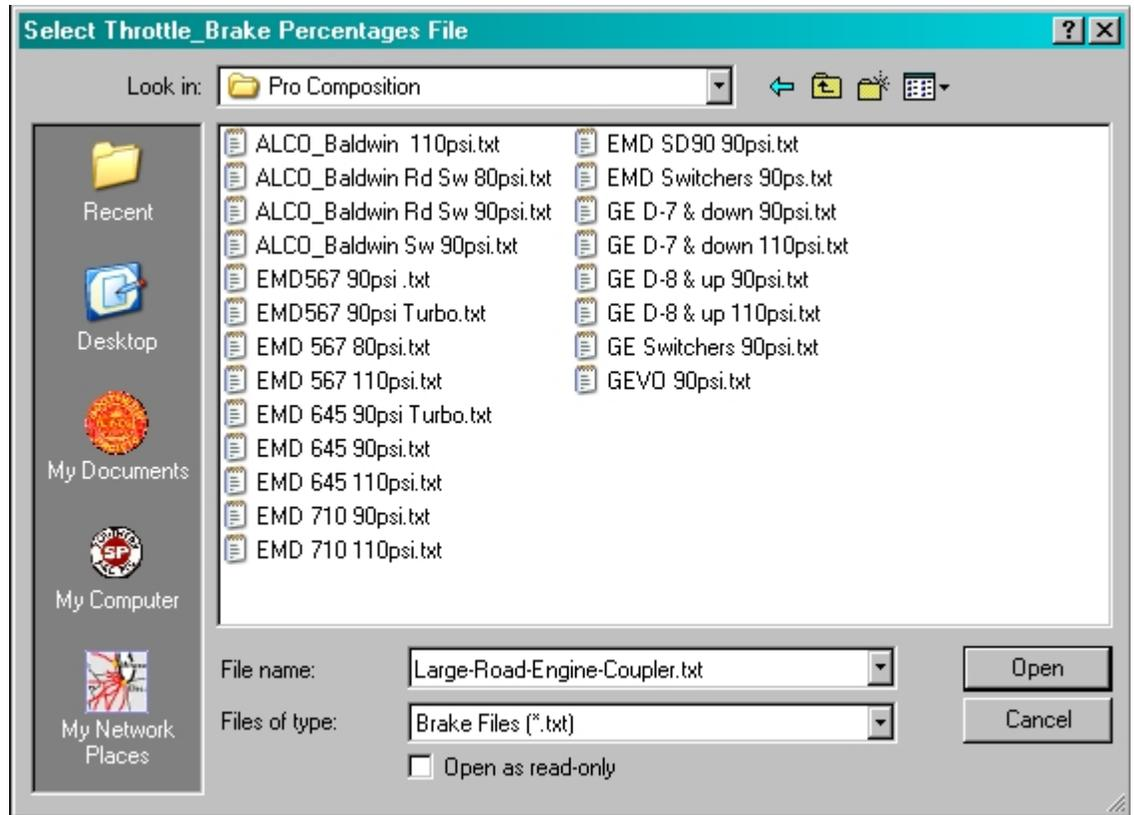

Figure 106
7. You should now see a new window as shown in Figure 106 with an array of locomotives to choose from. As per our trip to the Internet, we found out that the SD40-2 came with a 645 prime mover so we have the choice of Turbocharged and non-turbocharged. In this case we will equip our **eng** file with the "EMD645 90psi Turbo.txt" option. To determine the correct psi file to choose from, open your eng file for the item you are upgrading and seek out the line in Figure 106. By doing this we can see that our engine uses a 90psi train brake pressure. Now go back to our editor in **Route_Riter** and double left-click the "EMD 645 90psi Turbo.txt" file.